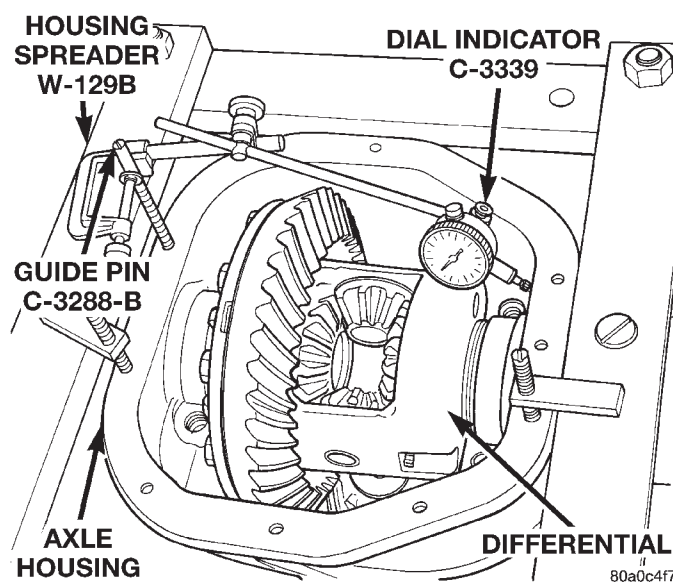

Fig. 30 Spread Differential Housing
(3) Remove the differential bearing caps.
(4) Position Spreader W-129-B with the tool dowel pins seated in the locating holes (Fig. 30).
(5) Install the hold down clamps and tighten the tool turnbuckle finger-tight.
(6) Install a Guide Pin C-3288-B at the left side of the differential housing. Attach dial indicator to housing pilot stud. Load the indicator plunger against the opposite side of the housing (Fig. 30) and zero the indicator.
(7) Spread the housing enough to remove the case from the housing. Measure the distance with the dial indicator (Fig. 30).
(1) Position Spreader W-129-B with the tool dowel pins seated in the locating holes (Fig. 30). Install the hold down clamps and tighten the tool turnbuckle finger-tight.
(2) Install a Guide Pin C-3288-B at the left side of the differential housing. Attach dial indicator to housing pilot stud. Load the indicator plunger against the opposite side of the housing (Fig. 30) and zero the indicator.
(3) Spread the housing enough to install the case in the housing. Measure the distance with the dial indicator (Fig. 30).